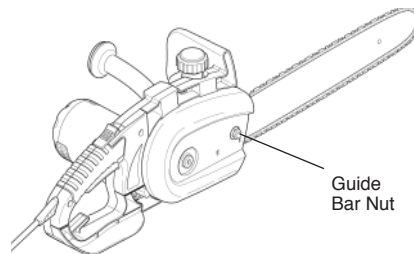

Figure 8 - Guide Bar Bolt
10. Finger tighten the guide bar nut onto the guide bar bolt. (See Figure 8).